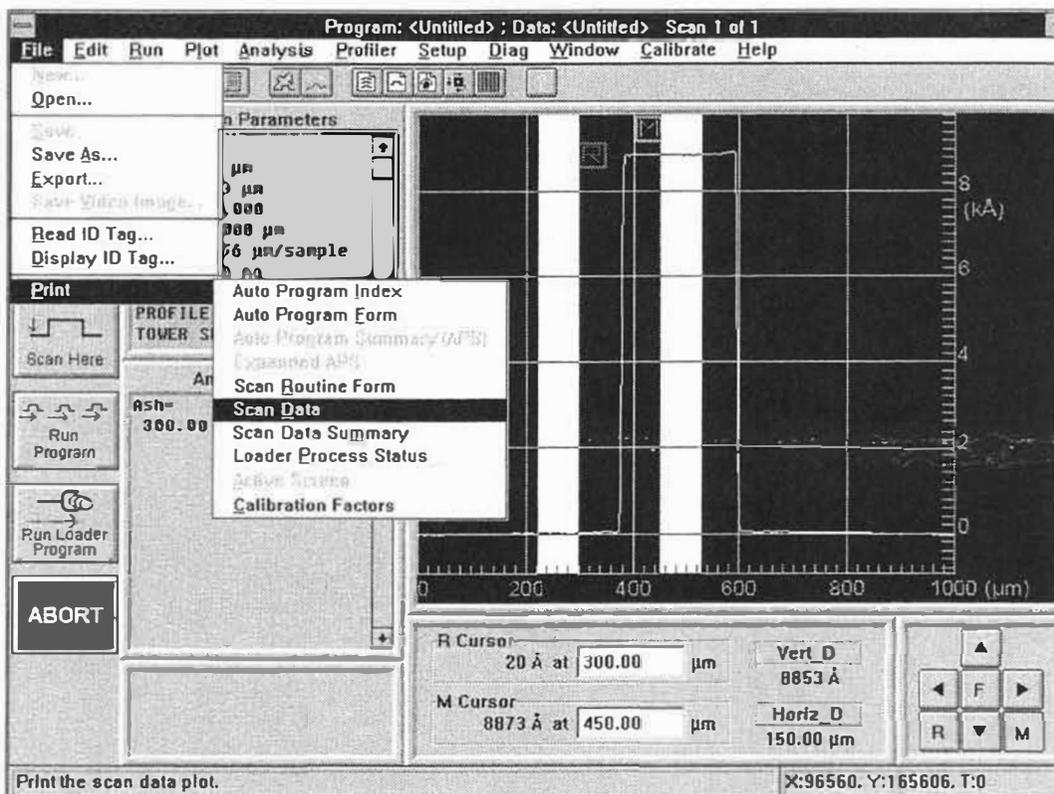

Figure 4-14. Print Menu Selections
2. From the File Menu, click-on "Print". A submenu will be displayed, listing the various print options (see Figure 4-14).